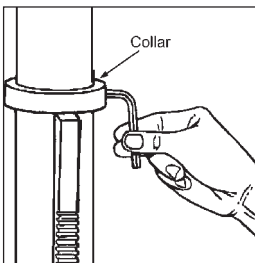

Fig. 2
4. Slacken the Collar grub screw (see fig.2), using the 3mm hex. wrench provided, and remove the Collar and Rack from the Column.